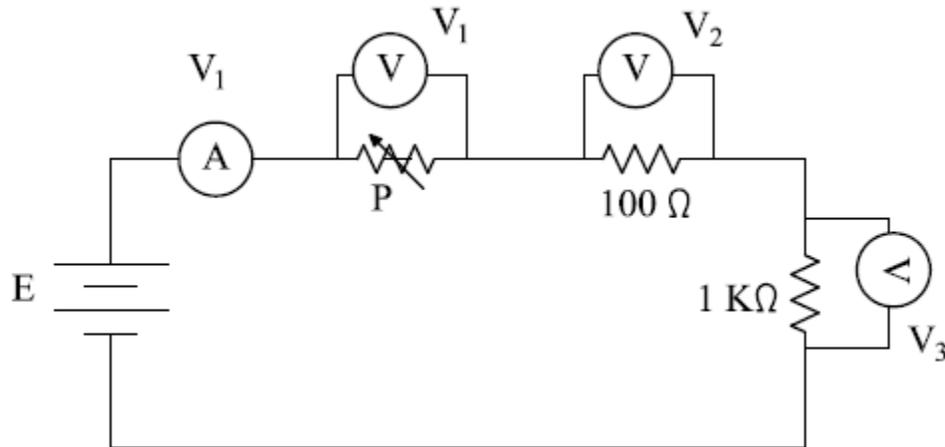

Fig 3: circuit of part 1
1. Connect the circuit as in fig 3